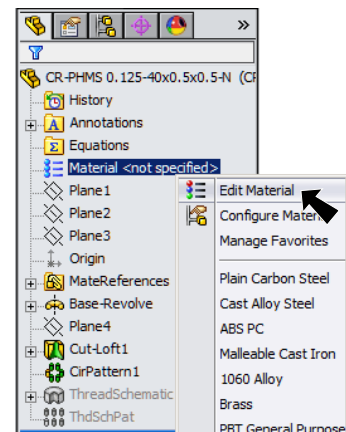

Fig. 12
Step 1. **Right click Material**  in the Feature Manager and click **Edit Material**, **Fig. 12**.